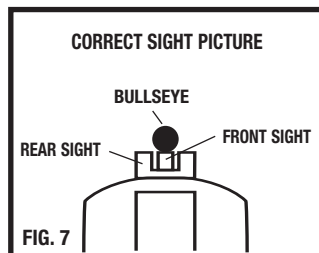

FIG. 7
Step 3. AIM AT SAFE TARGET To be a consistent marksman, use the correct sight picture each time you fire the pistol (Fig. 7).